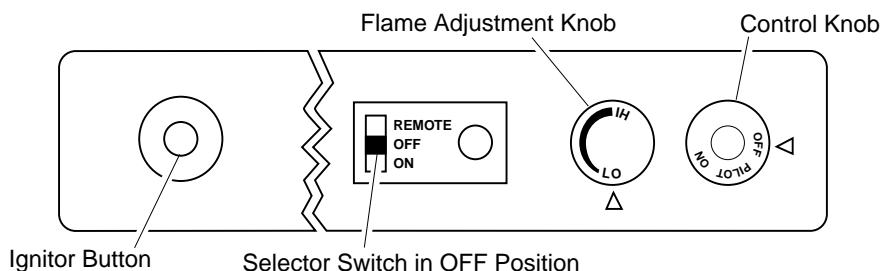

Figure 30 - Control Knob and Ignitor Button Location
5. Wait five (5) minutes to clear out any gas. Then smell for gas, including near the floor. If you smell gas, **STOP!** Follow "B" in the safety information, column 1. If you don't smell gas, go to the next step.
6. Press in and turn control knob counterclockwise to the PILOT position. Press in control knob for five (5) seconds (see Figure 30).